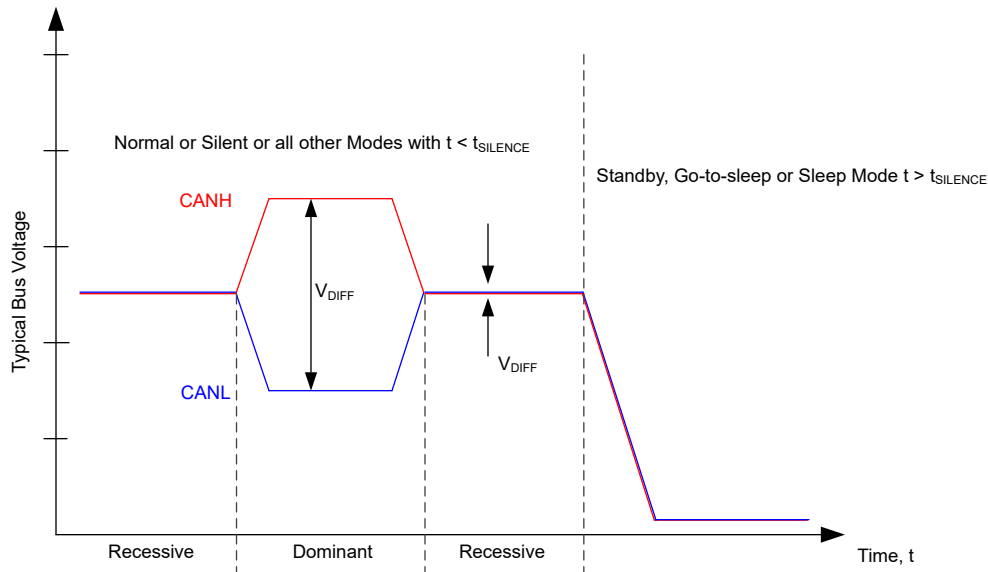

Figure 8-10. Bus States
(1) x = irrelevant
(2) For bus states and typical bus voltages see Figure 8-10
The CAN bus has two logical states during operation: recessive and dominant. See Figure 8-10.